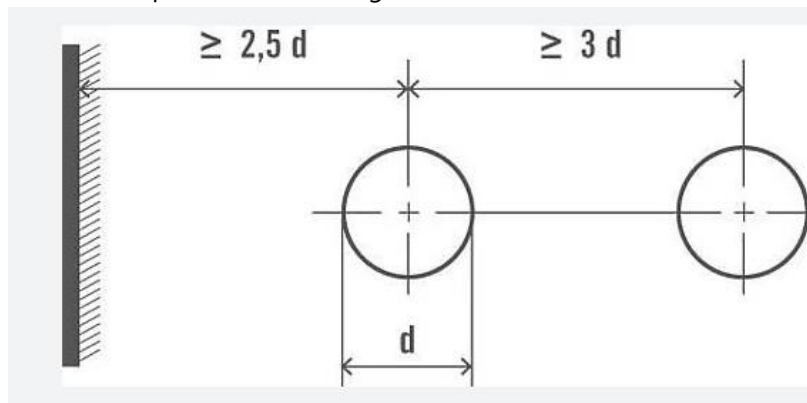

fig.9.1: Rockwell Hardness test specimen as per ISO 6508
2. To find the ultimate tensile strength of the metal specimens from the Brinell hardness number by using empirical relationships as shown in fig.9.1